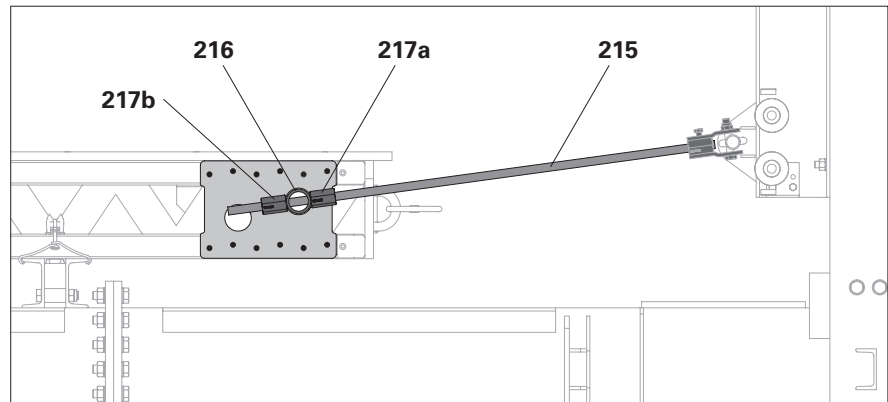

Fig. C3.05
5. Screw Hexagon Nut DW 20, AF 36/60 (**217b**) onto Betomax 20 (**215**). (Fig. C3.05)
7. Screw Hexagon Nuts DW 20, AF 36/60 (**217a + 217b**) onto Suspended Tube 530 ACS (**216**). (Fig. C3.05 + C3.06)